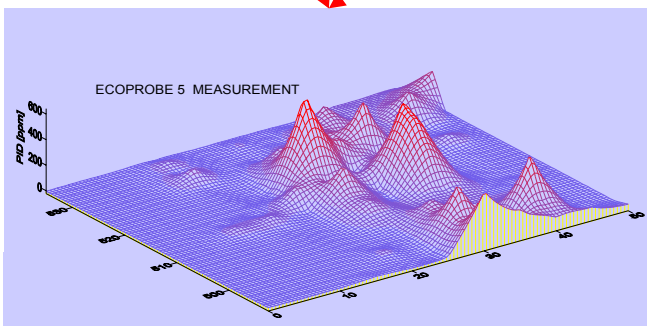

Fig.3 - Wire-frame map obtained from PID data above.
*Obtaining the contour and wire-frame maps using Surfer in brief (Fig. 3):* Contour and wire-frame maps can be obtained from Surfer using three columns of **ECOPROBE\_VIEW** data spreadsheet, where the first two columns are columns A and B which are linked with X and Y coordinates. Third column is a selected parameter for which the wire-frame map is required (for instance P for PID max.). The procedure is described in the manual for Surfer software.